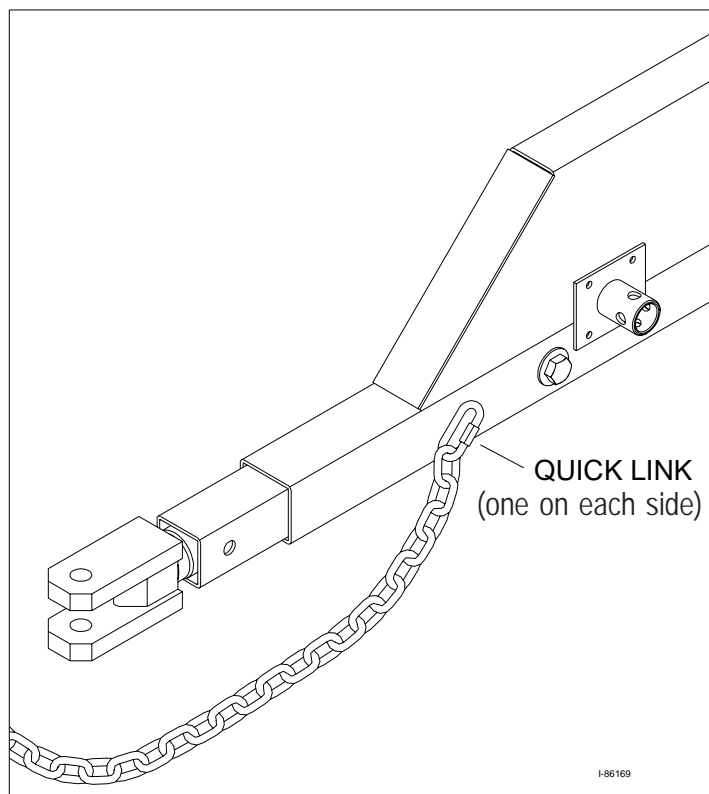

Figure 2B - Attaching the Safety Chains
1. Refer to Figure 2B for an illustration of the hook-up of the safety chains (one on each side).